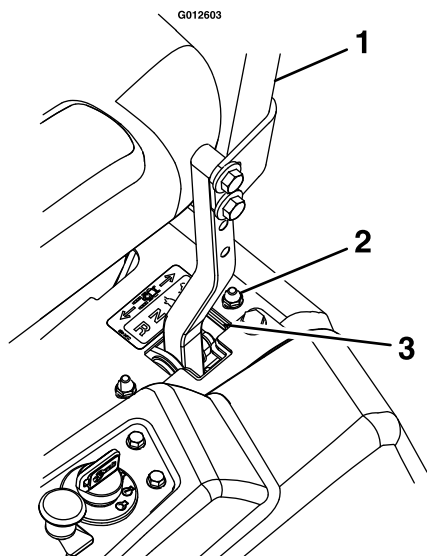

Figure 28
1. Loosen the screws on a cover plate (see Figure 28).